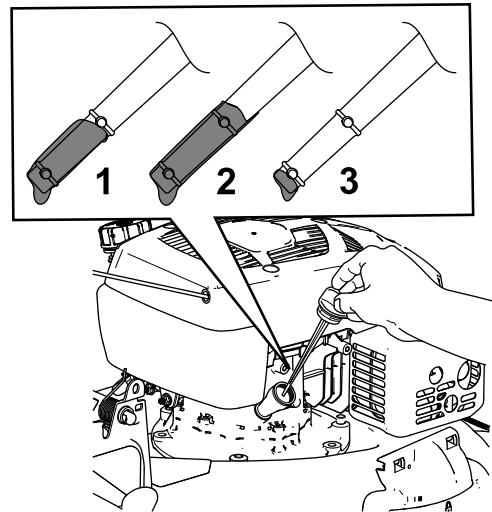

Figure 34
3. Remove the dipstick by rotating the cap counterclockwise and pulling it out (Figure 34).
10. Read the oil level on the dipstick (Figure 34).